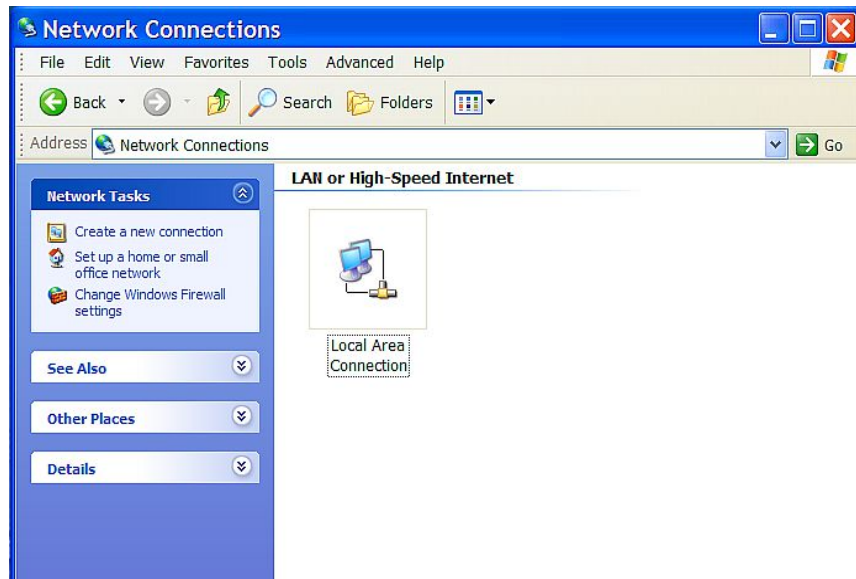

Figure 2.3c- Network Connection
- Right click on the icon labeled *Local Area Connection*. In the menu that follows, select the option at the bottom of the menu labeled *Properties*. The Local Area Connection Properties window will appear (Figure 2.3c).